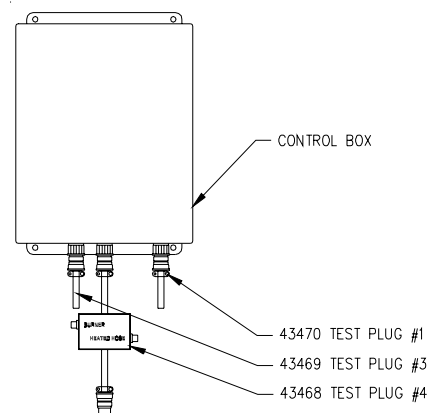

Fig. 2
2. Calibrate using test Light Kit p/n 43447. Install all test plugs as shown in (fig. 2), attach original cable to test plug #4.